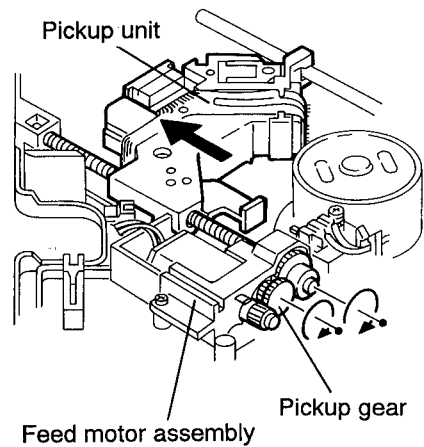

Fig. 2-20
5. While turning the pickup gear in the arrow direction as shown in Fig. 2-20, shift the entire pickup unit.